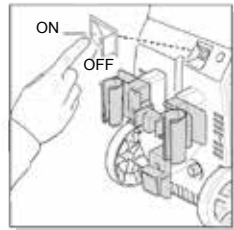

Fig. 12
- Make sure the “ON/OFF” switch is in the “OFF” position. The power switch has international symbols for ‘on’ and ‘off’: On (–) Off (O). (Fig. 12)